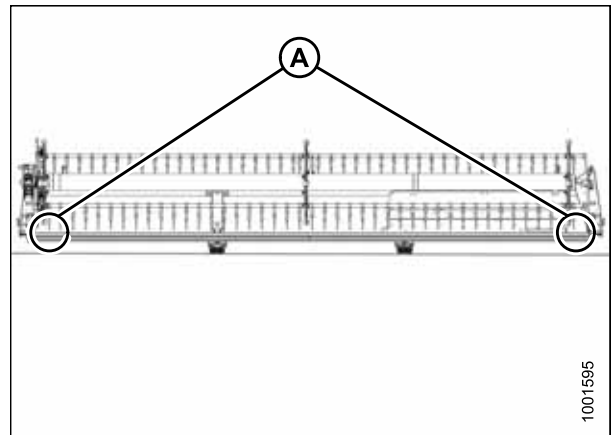

Figure 6.38: FlexDraper® Measurement Locations – Single Reel
- Single-reel headers: Figure 6.38, page 269